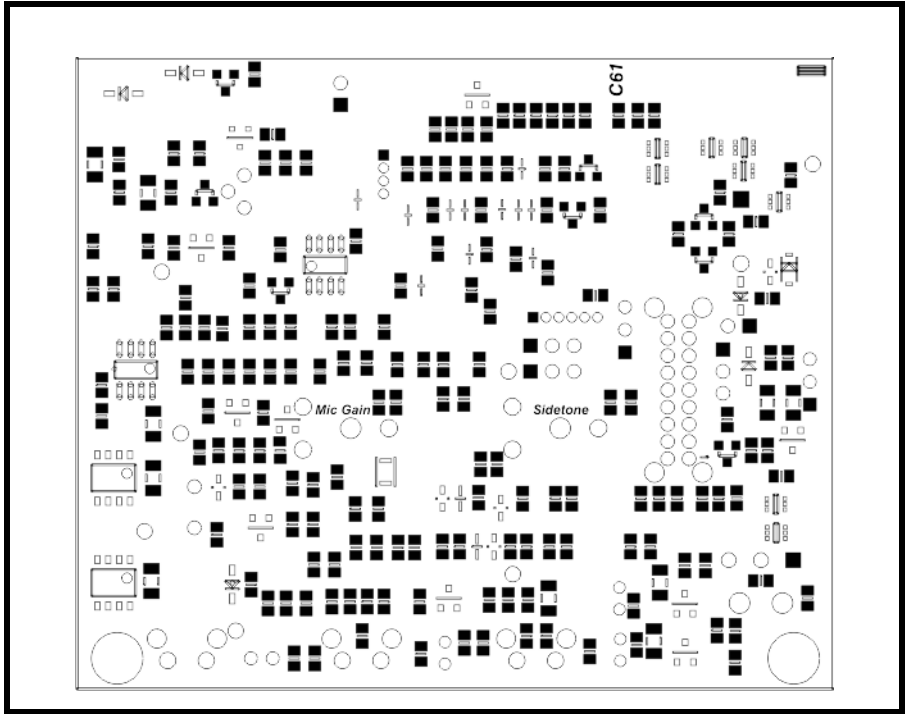

FIGURE 3. Printed Circuit Board
2. Refer to Figure 3, and locate C61 on the underside of the printed circuit board.